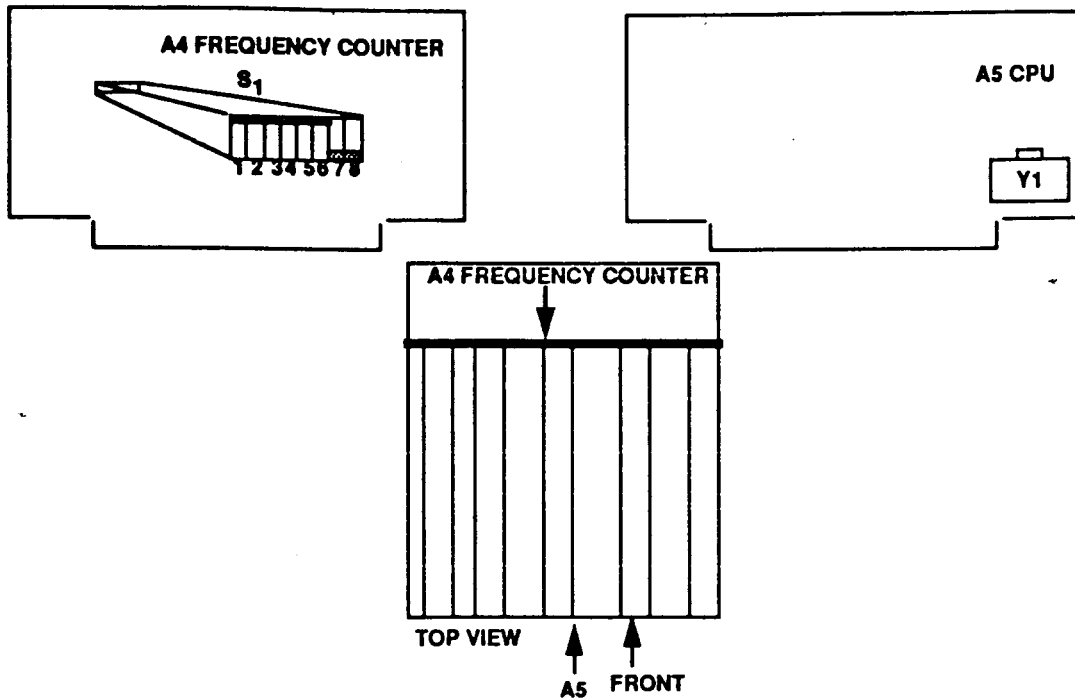

Figure 5. Time base accuracy - adjustment locations.
(a) Remove top cover and set A4S1 switch positions 7 and 8 (fig. 5) to open (down) and press **LCL INIT** key.
(3) Remove cover screw from A5 CPU Y1 (fig. 5) and adjust internal slotted screw for a TI indication of 10000.00 kHz ( $\pm 1$  count) (R).
(4) For 1120-S/10 only, reset A4 FREQUENCY COUNTER S1 switch positions 7 and (8 fig. 5) to the closed (up) position.
(5) Replace A5 CPU Y1 (fig. 5) cover screw and TI top cover.